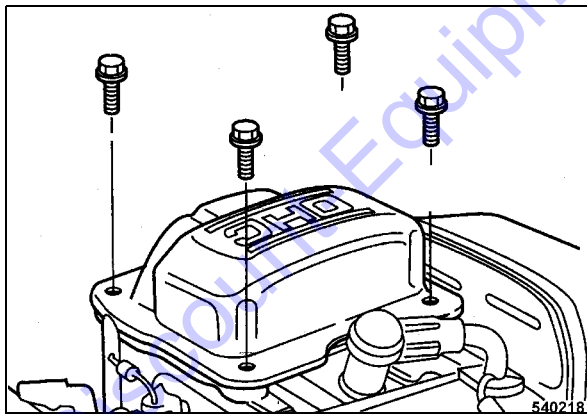

Fig. 43
- Unscrew the fastening screws for the cylinder head cover (Fig. 43).